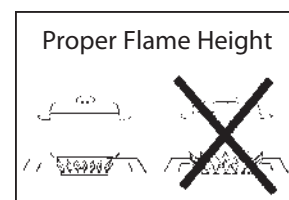

Fig. 20
- For safety reasons the flame must never extend beyond the bottom of the cooking utensil. Never allow flames to curl up the side of the pan (see Fig. 20).